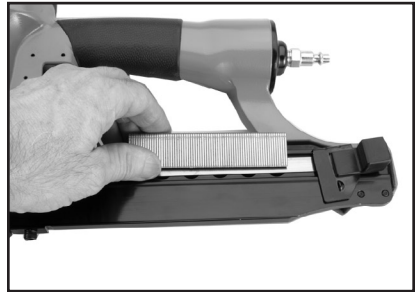

Figure 4. Loading a staple strip into the magazine.
3. With the pusher locked at the rear of the magazine, insert a strip of staples into the magazine as shown in **Figure 4**.